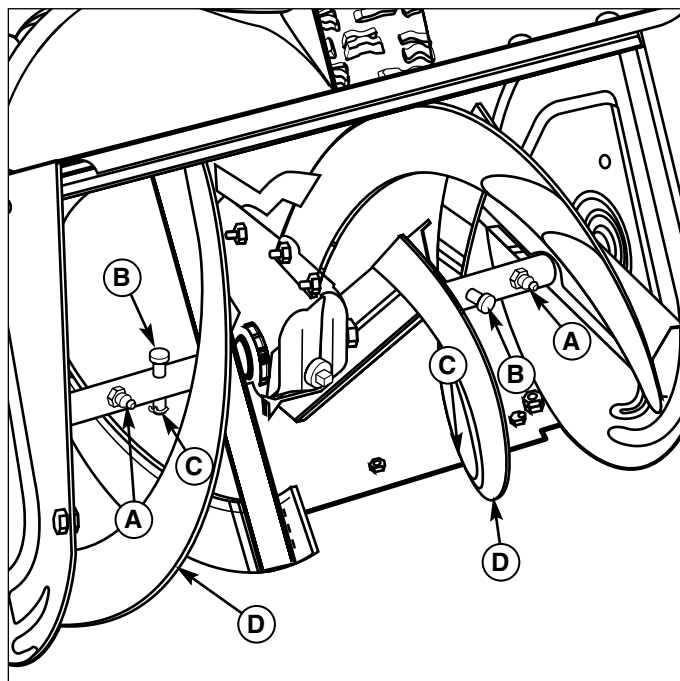

Figure 17. Lubricate Auger Shaft Assembly
1. Remove cotter pin (C, Figure 17) and shear pin (B).
2. Use a grease gun and squirt several shots of grease into grease fitting (A).
3. Rotate auger assembly (D) several times to distribute the grease evenly. Repeat Step 2.
4. Reinstall shear pin (B) and cotter pin (C).